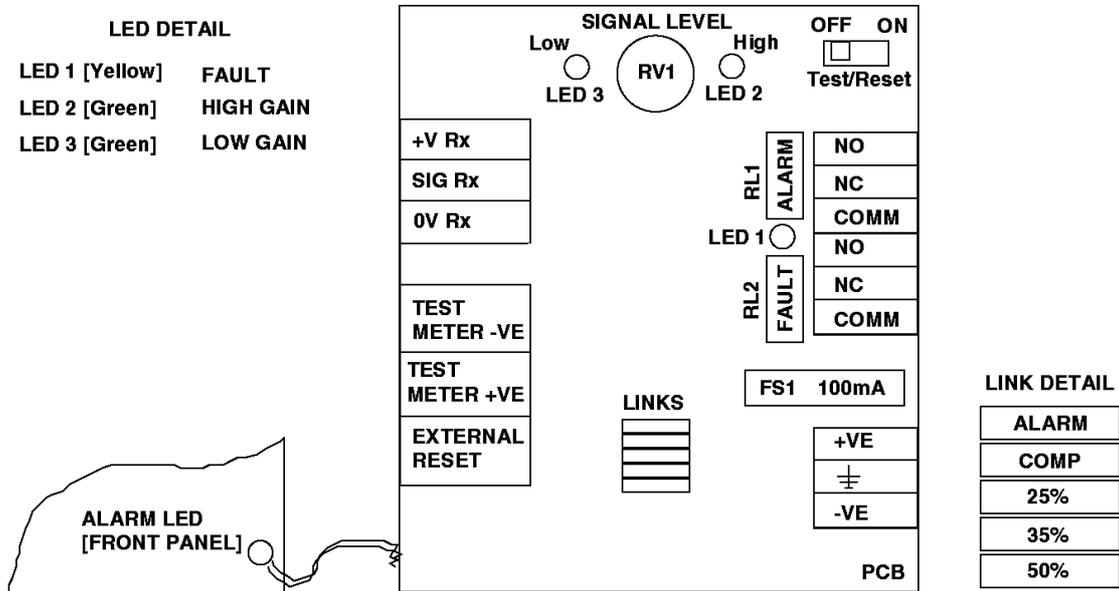

Fig. 1 PCB Layout
- a) Receiver placed in the Reset state. Check that the Test/Reset Switch (Fig. 1) is set to OFF.
Table 2 gives the meaning of the LED indications on the PCB in the Control Box - see Fig 1.
- Connect the Alignment Aid or dc voltmeter as shown in Fig. 1 using 2-core cable.